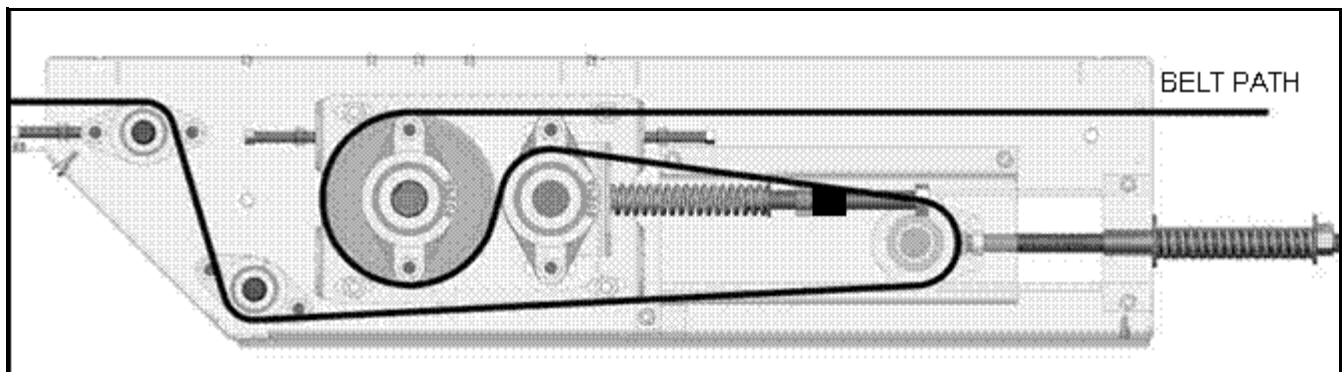

Figure 8.7 Drive Belt Path
7. Pull the old belt out and the new belt will be threaded into place (see Figure 8.7).